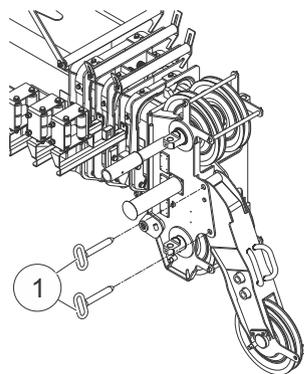

Fig. 175 Bolting the auxiliary jib to the telescopic boom
| 7 | Insert the bolts (1) in Fig. 175 and secure with retaining springs. |